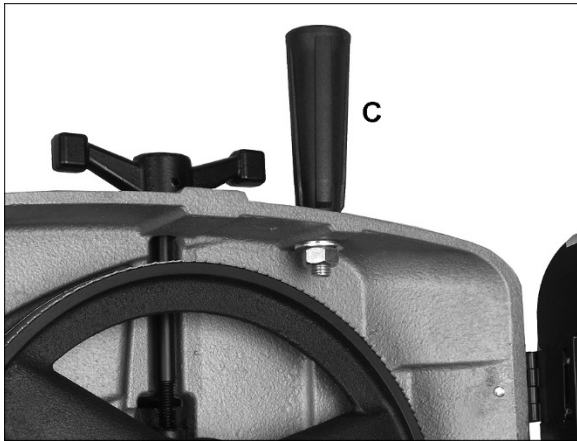
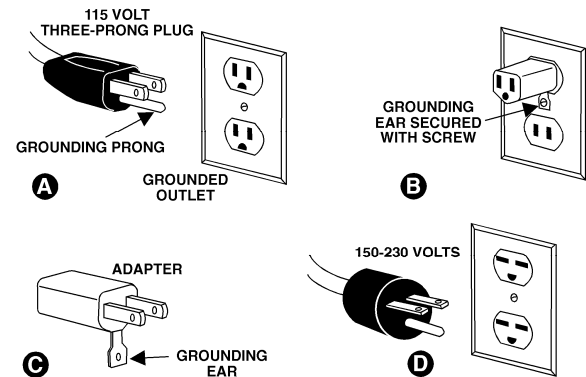

Figure 6-5: installing handle
Figure 7-1: grounding
- Install handle with flat washers and nut (C, Figure 6-5), using 19mm wrench. To install, raise bow to vertical position and open guard. **CAUTION:** Spring-tensioned stop bracket (see Figure 7-1) must be rotated out of the way before raising bow.
The HVBS-712V and HVBS-712DV Band Saw is rated at 115V power. The band saw comes with a plug designed for use on a circuit with a *grounded outlet* that looks like the one pictured in **A**, Figure 7-1.
This tool is intended for use on a circuit that has an outlet that looks like the one illustrated in **A**, Figure 7-1. An adapter, shown in **B** and **C**, may be used to connect this plug to a 2-pole receptacle as shown in **B** if a properly grounded outlet is not available. The temporary adapter should be used only until a properly grounded outlet can be installed by a qualified electrician. The green-colored rigid ear, lug, and the like, extending from the adapter must be connected to a permanent ground such as a properly grounded outlet box. **Note:** *In Canada, the use of a temporary adaptor is not permitted by the Canadian Electrical Code, C22.1.*